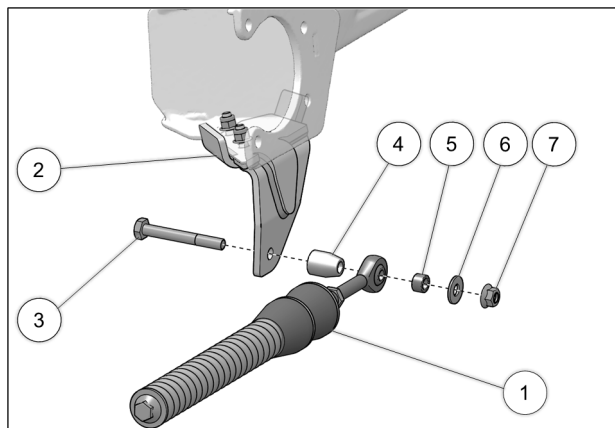

Fig. 9
9. Attach stabilizing rod (1) to anchor bracket (2), using 80mm-long M10 bolt (3), long spacer bushing (4), short spacer bushing (5), flat washer (6), and nut (7). Torque to 70 N•m [52 lb•ft]. See Fig. 9